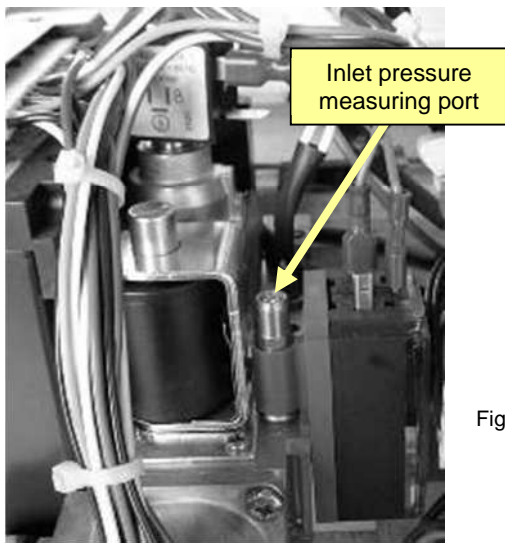

Fig. 19
- Place the tube of the "accurate" manometer on the Inlet pressure port (Figure 19) of the Gas Regulating Valve after having loosened the screw by one turn